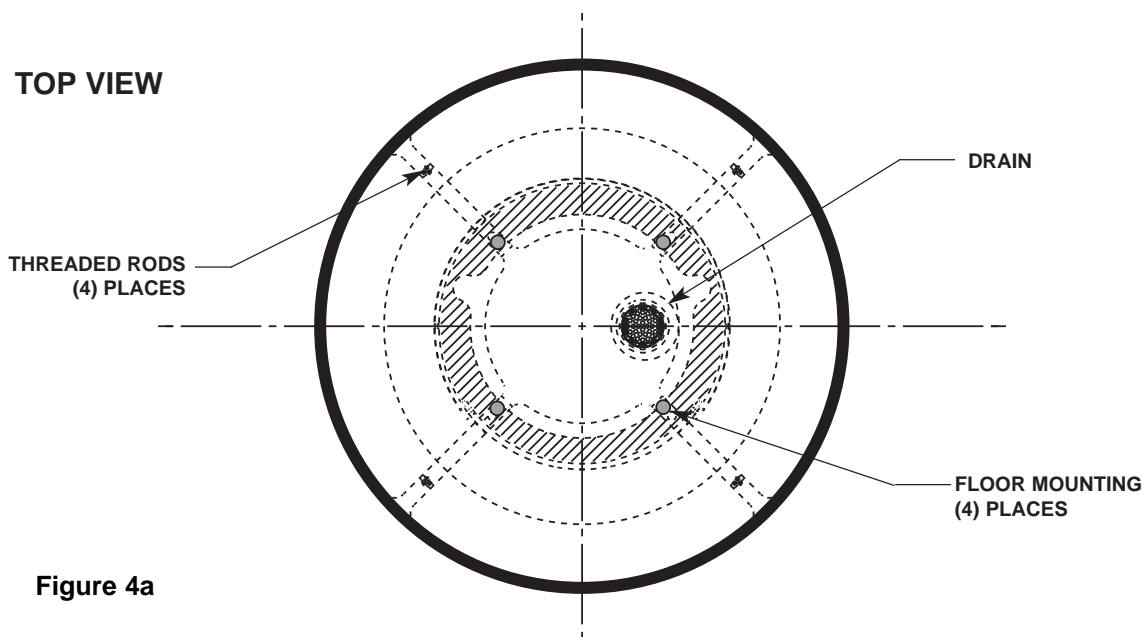

Figure 4a
A POSITION THE PEDESTAL AT DESIRED LOCATION AND MARK THE POSITION OF THE (4) MOUNTING LOCATIONS (SEE FIGURE 4A).